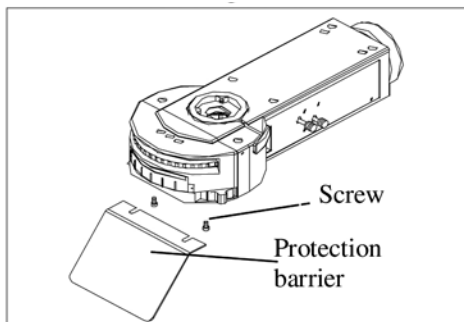

Fig. 3
Mount a filter cube ⑧ (Fig. 3) into the top of the model block and tighten the screw ⑩. Beside the screw, you can see a number on the turret indicating G-excitation. To help identify mirror blocks, place a label below the corresponding number on the front side of the mirror turret. Repeat procedure to mount other blocks.
### Mounting Protection Barrier (Fig. 3)